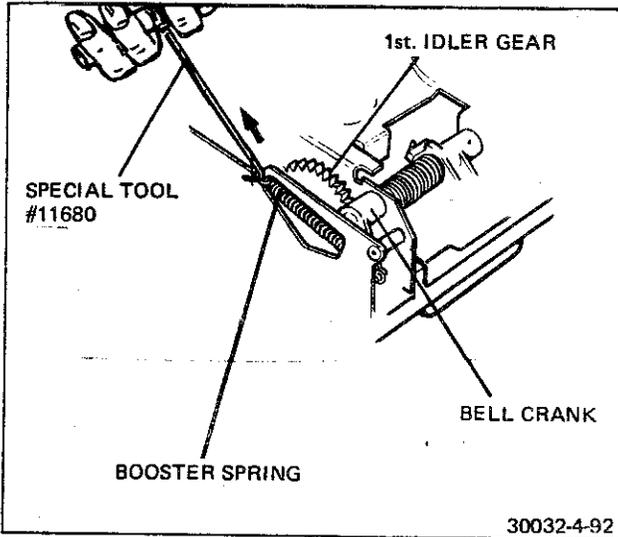

FIGURE 4-92 REMOVING BOOSTER SPRING
11. Refer to Figure 4-92. Use Special Tool # 11680 to catch the end of the booster spring. Stretch the spring just enough to unhook the end of the spring from the outer plate.
16. Identify the first reduction gear (Figure 4-92). This gear is a gray/green color.